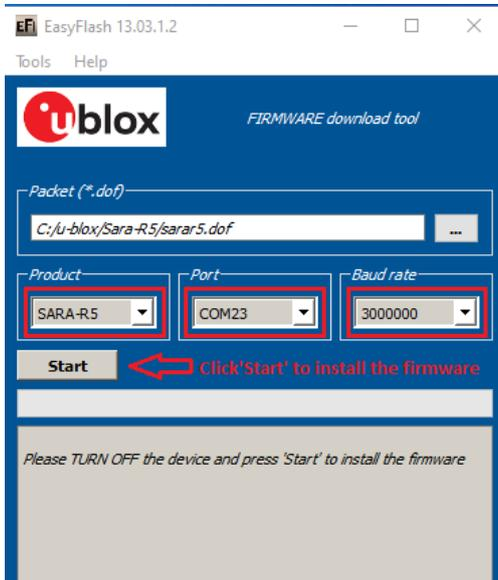

Figure 9: Setting up EasyFlash and start the FW installation
- Select in pull down (Figure 9)
- Click **Start** (Figure 9) and power up the module.